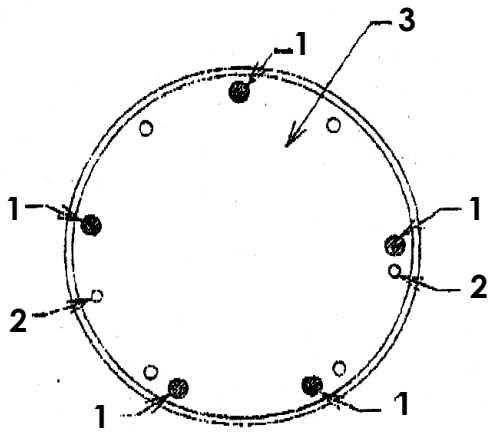

Figure 1
Remove the 5 screws on the back of the gauge (fig 1, item 1).